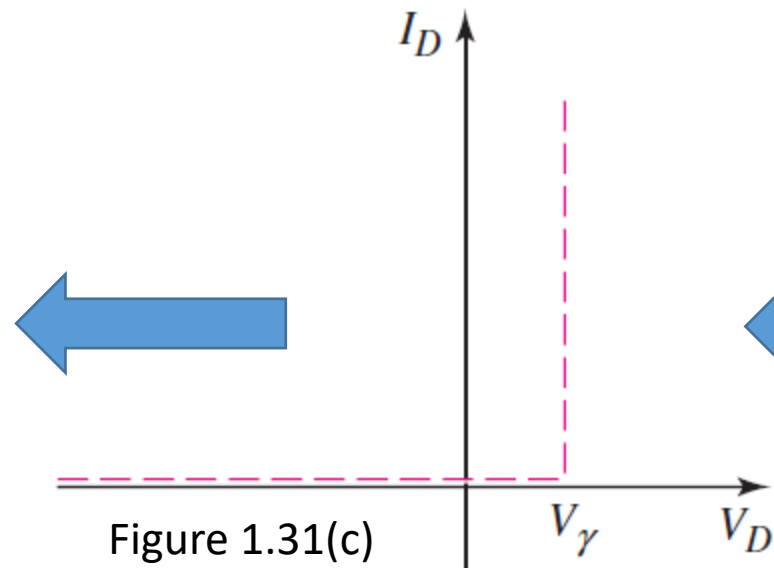

Figure 1.31(c)
- If we assume  $r_f = 0$ , the piecewise linear diode characteristics are shown in Figure 1.31(c).